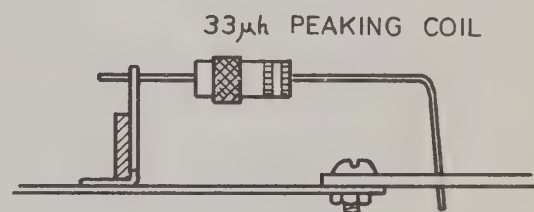

Figure 16
(✓) Connect a 33  $\mu$ h peaking coil from AE2 (S) to circuit board hole AA (S). Use the entire lead as shown in Figure 16. This reduces stray capacity.